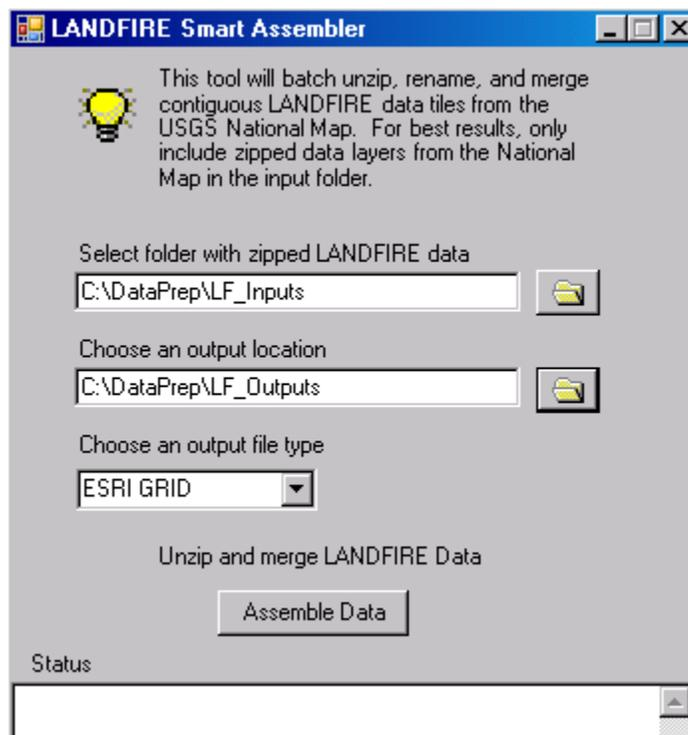

Figure C-4. The *LANDFIRE Smart Assembler* dialog box.
13. In the top entry of the dialog box, navigate to the *LF_Inputs* folder. Click the folder icon for an output location. Click **New Folder** and name the new folder *LF_Outputs*. Keep the default output file type ESRI GRID. Use separate input and output folders for each download and processing session for best results. The ESRI GRID format will allow the Smart Assembler to attach attributes. Other options are available, but LFDAT does not automatically add the attributes with the Smart Assembler (fig. C-4).